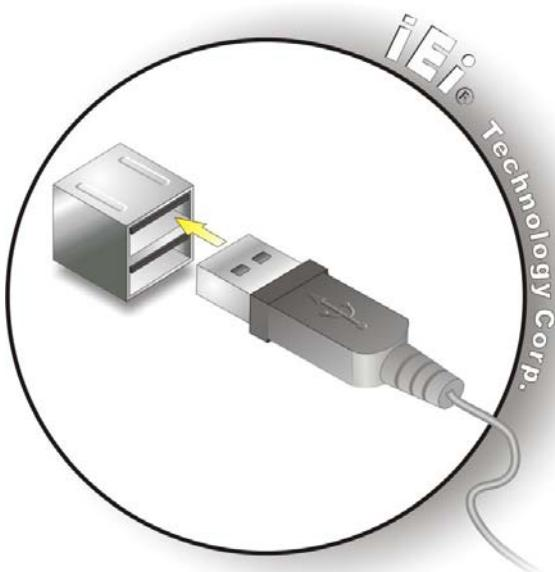

Figure 5-24: USB Connector
Step 4: Insert a USB Series "A" plug. Insert the USB Series "A" plug of a device into the USB Series "A" receptacle on the external peripheral interface. See Figure 5-24.